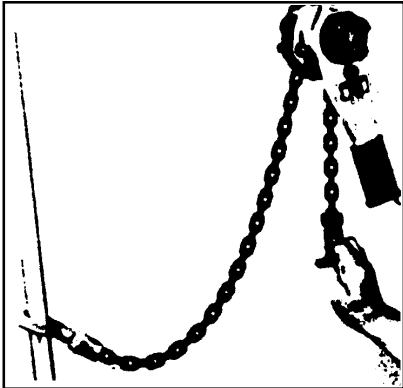

FIGURE 3
- Pull firmly non-load side of the chain until the brake locks from the force of the load (See Figure 3, 4). Turn the selector lever to the "UP" position and hoist or pull by manipulating the operating handle.